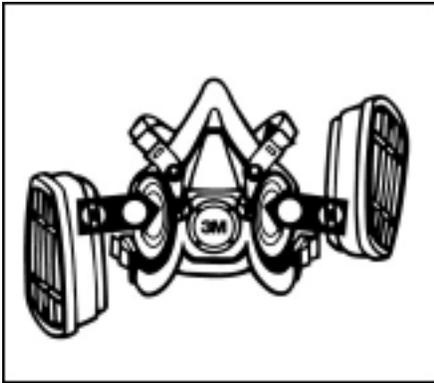

Fig. 1
1. Align cartridge notch with facepiece mark, as shown, and push together. (Fig. 1)